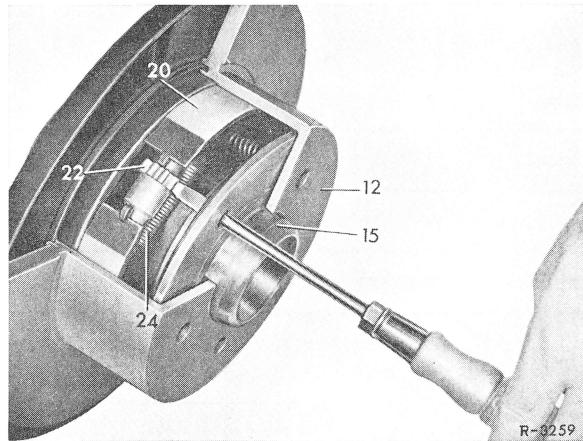

Fig. 3
5 Loosen adjusting screw (3) on adjusting bracket completely (Fig. 3).